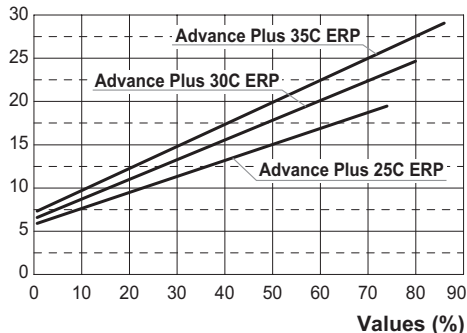
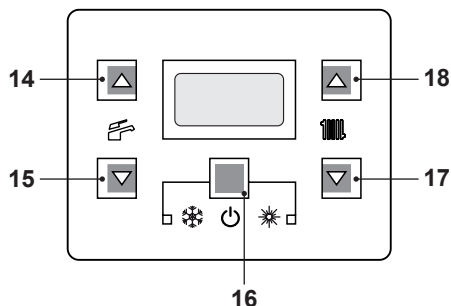
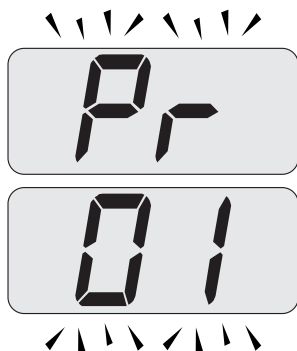
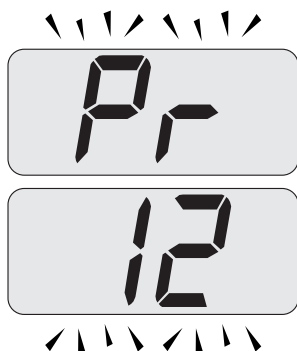

Fig. 8.30
Fig. 8.31
Fig. 8.32
Fig. 8.33
Refer to Fig. 8.30 and determine the correct Value appertaining to the output required for the central heating requirement.
- Enter the "programming mode" by sequentially pressing keys 16 - 17 - 18 (Fig. 8.31) for 10 seconds at the same time until the letters Pr that alternate with code 01 are displayed on the LCD display, indicating that "parameter 01" (Fig. 8.32) has been activated.
- Scroll the various parameters using keys 17 or 18 until the letters **Pr** that alternate with code **12** are displayed on the LCD display, indicating that "parameter 12" (Fig. 8.33) has been activated.
- Press keys 16 and 18 (Fig. 8.31) at the same time until the value of parameter 12 (71=Advance Plus 25C ERP or 77=Advance Plus 30C ERP or 85=Advance Plus 35C ERP) is displayed on the LCD display (Fig. 8.34).
- It is possible to modify parameter using keys 17 or 18 (Fig. 8.31) (Refer to Fig. 8.30 and determine the correct Value appertaining to the output required for the central heating requirement.).
- By pressing key 16 (Fig. 8.31) confirmation of the inserted value is obtained.
- Press keys 16 and 17 (Fig. 8.31) at the same time to exit without changing the value (return to the parameters list Fig. 8.33).
- Press sequentially keys, 16 - 17 and then 18 (Fig. 8.31) and hold in for 10 seconds to exit the "programming mode".